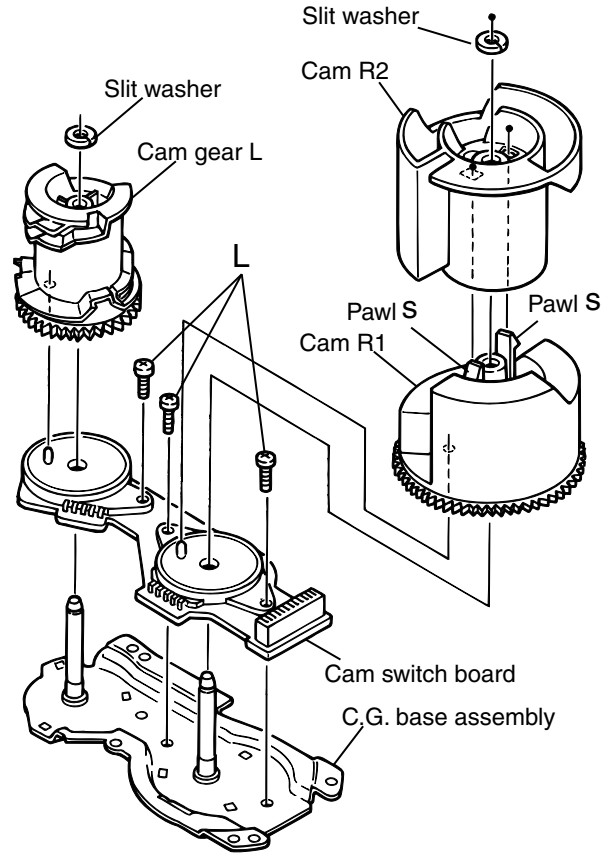

Fig.23
**■ Removing the cams R1/R2 assembly and cam gear L (See Fig.23)**
**■ Removing the C.G. base assembly (See Fig.23 and 24)**